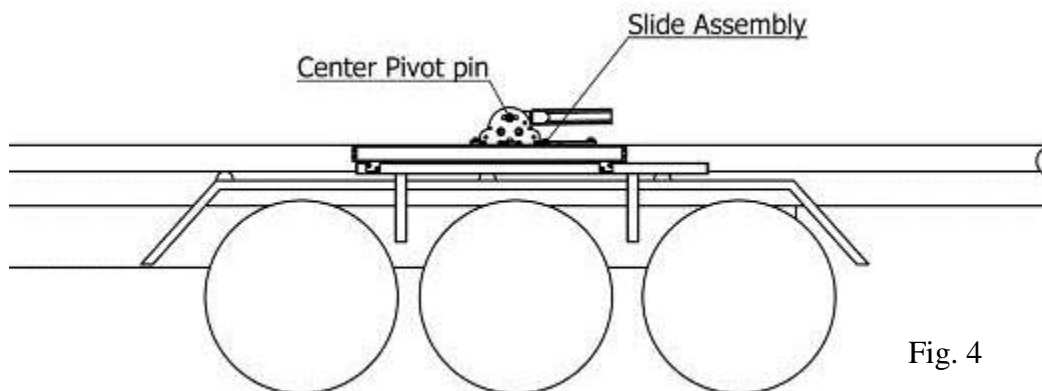

Fig. 4
- 3) Set the pivot assembly on the horizontal mounting tube (installed in previous step) so that the sliding assembly is to the rear and the center pivot pin is in line with the pivot point (see fig. 4)
*Note: To ensure proper operation the cylinder needs to be slid all the way to the back (as shipped and as shown below in Fig. 4) at the time of install.*